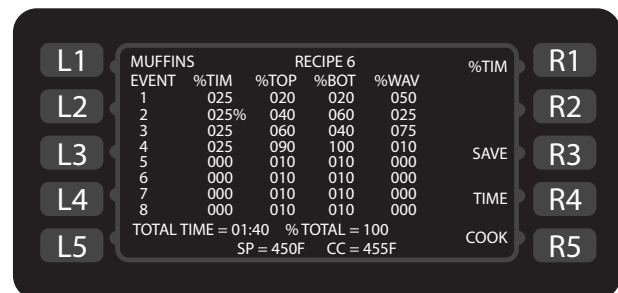

Figure 32: Food Item Edit Screen
5. From the “Food Item Edit” screen (Figure 32), edit the food group name:
5. Use the Down key to move the cursor to the desired “Event Setting” field (Figure 32).
NOTE: The currently-selected field will be displayed in the top-right corner of the display. In Figure 32, the cursor is in the % Time column.